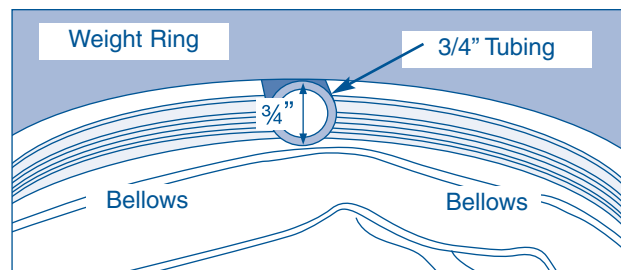

Figure 4-19.
6. Place the spring in the groove at the top of the bellows and wedge a round object, about 3/4 " in diameter between the weight ring and the bellows to hold the spring in the groove. (See Figure 4-19)